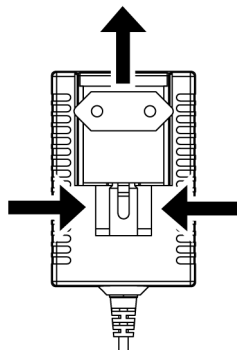

Fig. 3.7 PS4: Changing the AC line plug adapter
3. Slide a different AC line plug adapter into the slot (see Fig. 3.7).